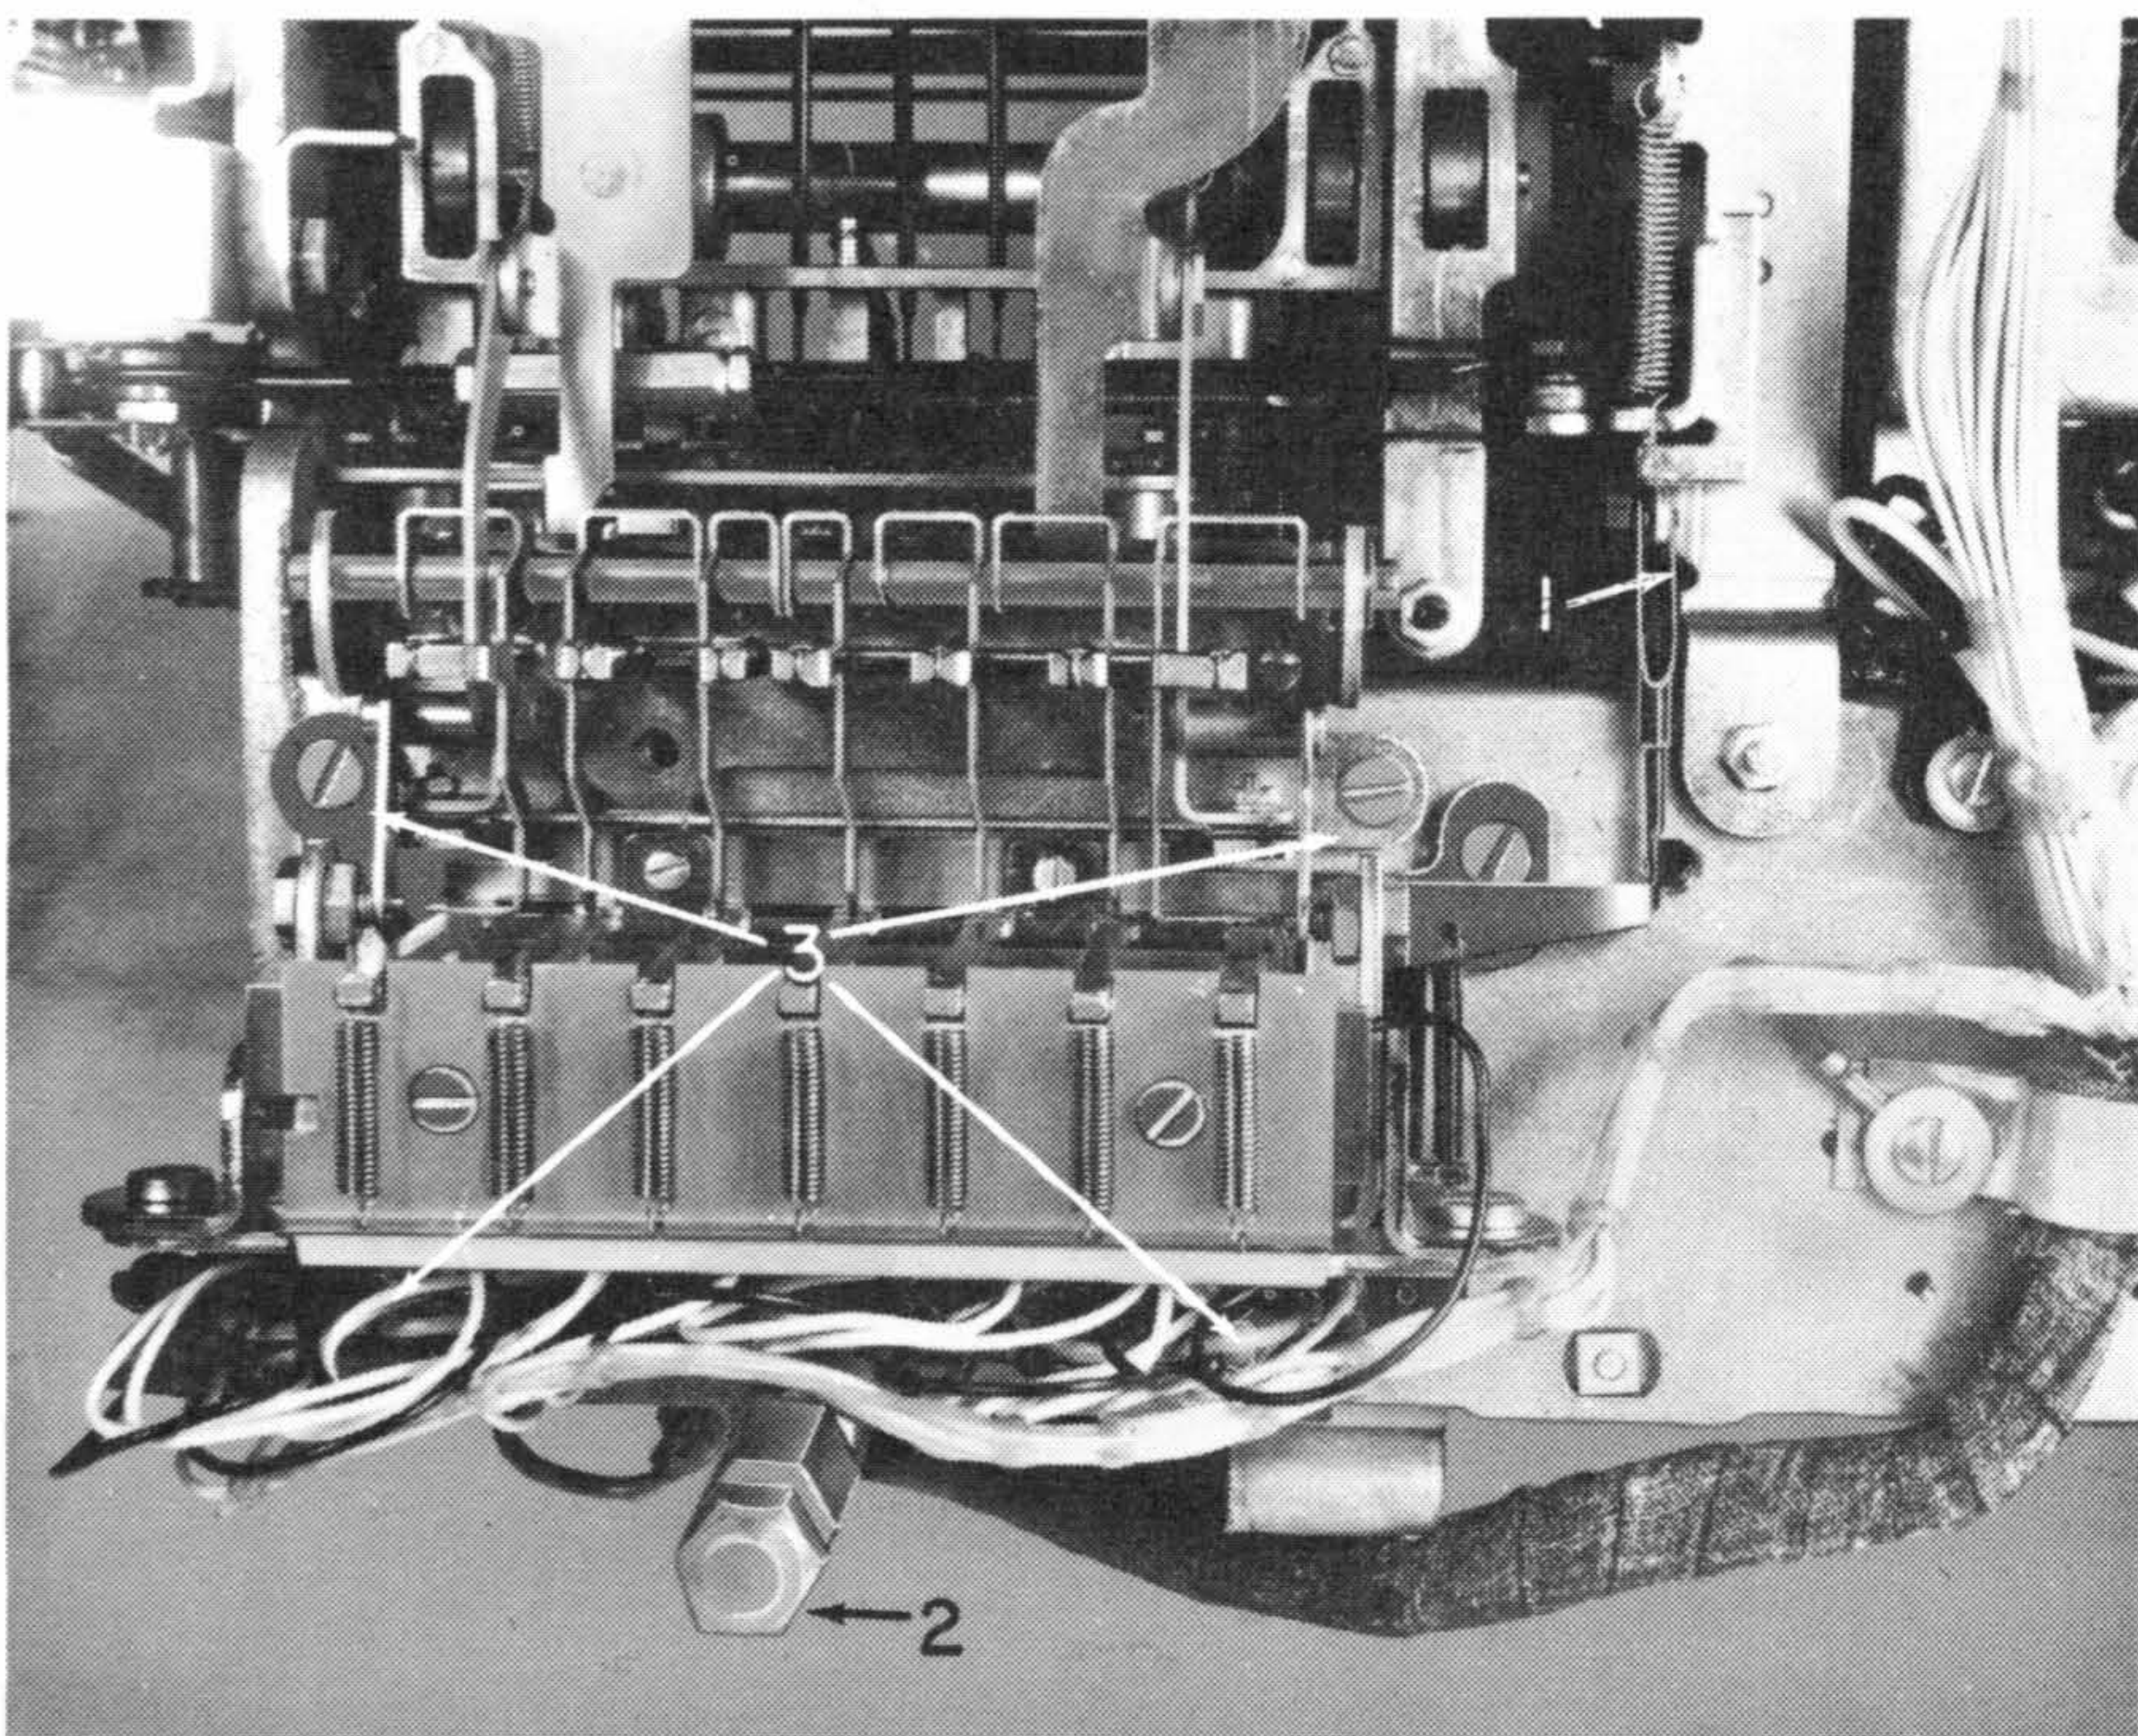

Figure 36. Print Magnet Assembly Removal
1. Disconnect the cycle-clutch trip link (#1, Figure 36).
2. Remove the support leg in the lower left corner (#2, Figure 36).
3. Remove the four mounting screws (#3, Figure 36).